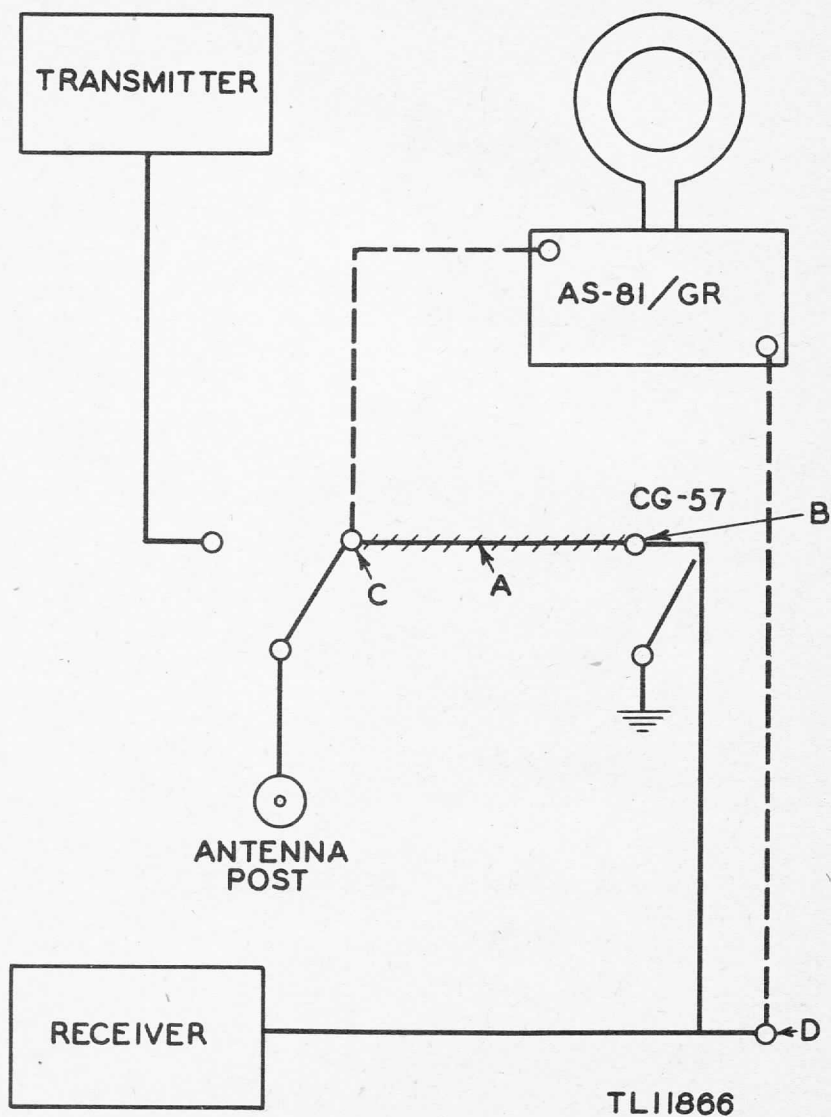
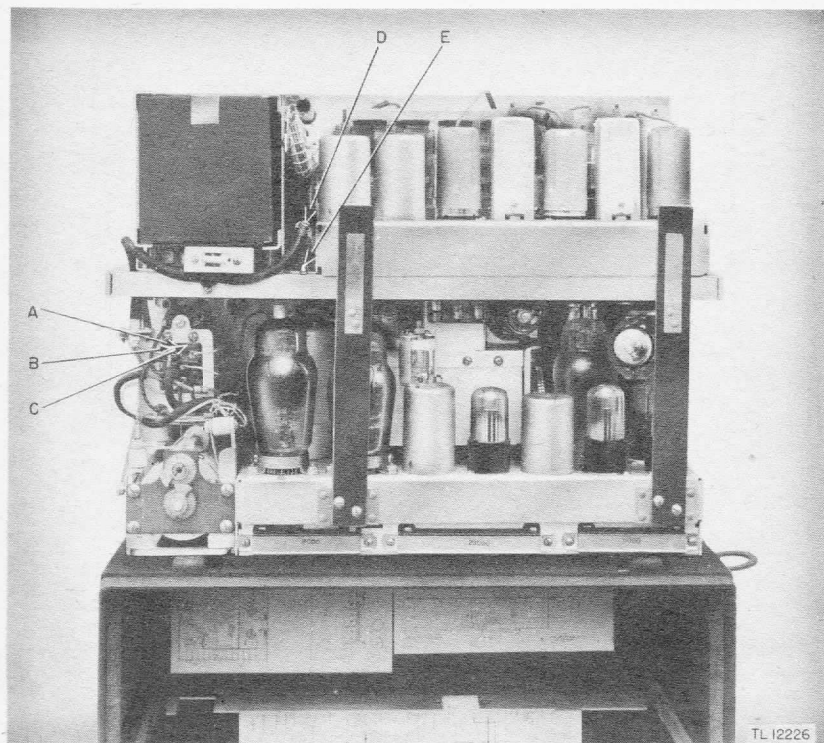

Figure 10. Antenna connections for Radio Set SCR-284-(&).
Figure 11. Chassis of Radio Set SCR-284-(&), removed from case.
a. In Radio Set SCR-284-(&), a relay automatically connects the antenna to the receiver when the transmitter is not in operation. To operate Antenna System AS-81/GR, the antenna must be fed through Control Box C-98/GR before it is fed into the receiver. Therefore the connection going from the relay to the receiver must be broken and Antenna System AS-81/GR inserted electrically in the break. Figure 10 illustrates the changes to be made in the antenna relay of Radio Set SCR-284-(&) for installing the antenna system. Consult the diagram and the photograph in figures 10 and 11 and proceed as follows:
(1) Remove the chassis of Radio Set SCR-284 from its case, drill a $\frac{3}{8}$ -inch hole directly behind the relay in the case, and insert a grommet.
(2) Locate the jumper lead, marked A in figure 11, which extends across the two upper contact lugs of the relay. Disconnect the left side of this jumper lead from the left contact lug. Unsolder the jumper lead at point marked B in figure 11.
(3) Solder an insulated wire to the other side of the jumper lead at the point marked C in figure 11, and pass the wire through the $\frac{3}{8}$ -inch hole to the AS-81/GR terminal marked AUX VERT ANT. This wire should be of sufficient length to allow the chassis to be taken out of the case.
(4) Connect terminal end of Cord CG-57/GR to the REC ANT terminal on Control Box C-98/GR. Pass the other end, which is without a connector, through the $\frac{3}{8}$ -inch hole and solder the spade lugs to the tinned leads. Attach the lug of the center conductor under the screwhead marked D in figure 11, and the lug on the outer conductor or shield under the screwhead marked E in figure 11.
(5) Connect Power Cord CX-105/GR. Be sure to observe the polarity of the leads. These leads are appropriately marked for proper connection to the battery.